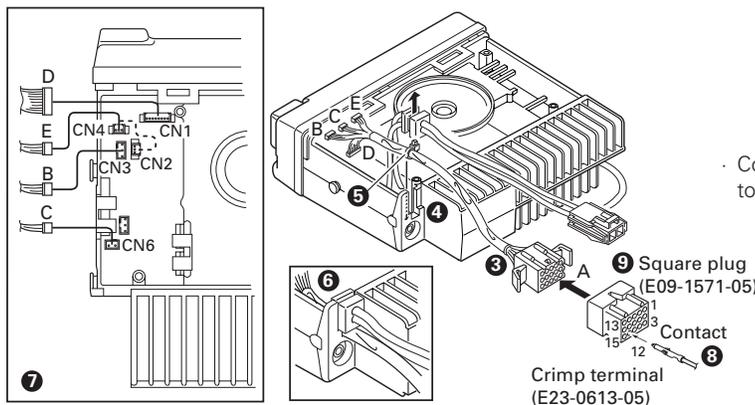

Fig. 2
4. Replace the DC cord bushing (❻).
5. Connect the KCT-19 to the TX-RX unit (A/2) as shown in Figure 2 (❼).
6. Connect the KCT-19 to the external accessory by inserting the crimp terminal (❸) into the square plug (❹), both of which are supplied with the KCT-19.